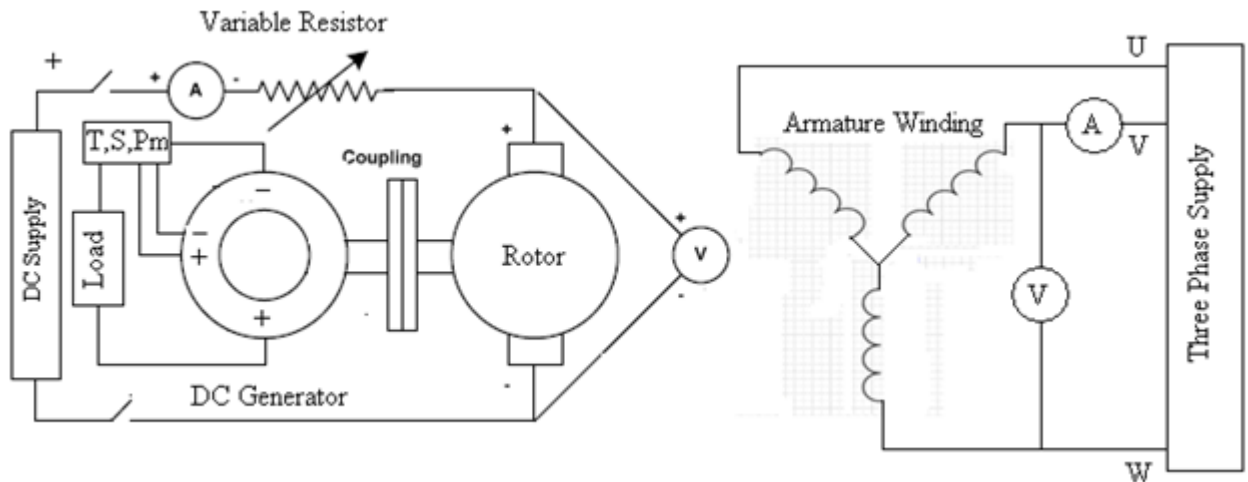

Figure 12.2: Torque speed curve
1. Couple synchronous motor with PMDC generator mechanically as shown in Figure 12.2.